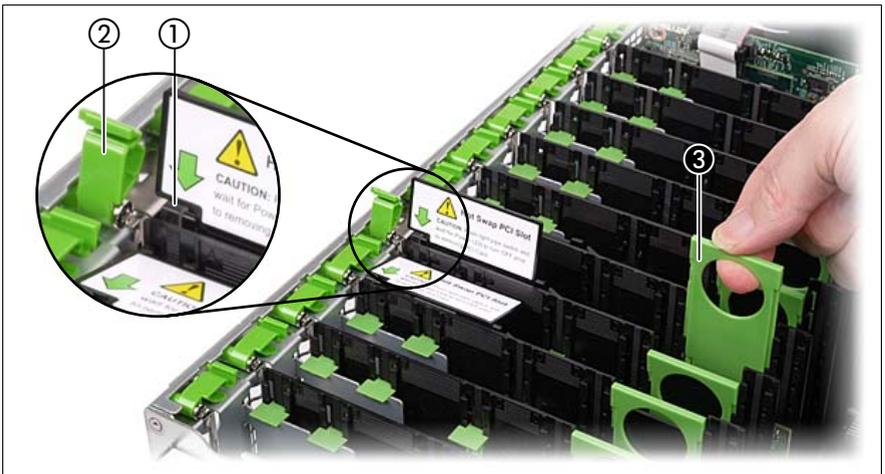

Figure 28: Deactivating, unlocking and removing the board
- ▶ Close the slot lock (see pos. #2 in figure 28 on page 109) by folding it down. Make sure that the slot lock engages.
- ▶ Activate the expansion card using either the relevant PCI hot-plug software or by pressing the light-pipe switch (see pos. #1 in figure 28 on page 109).